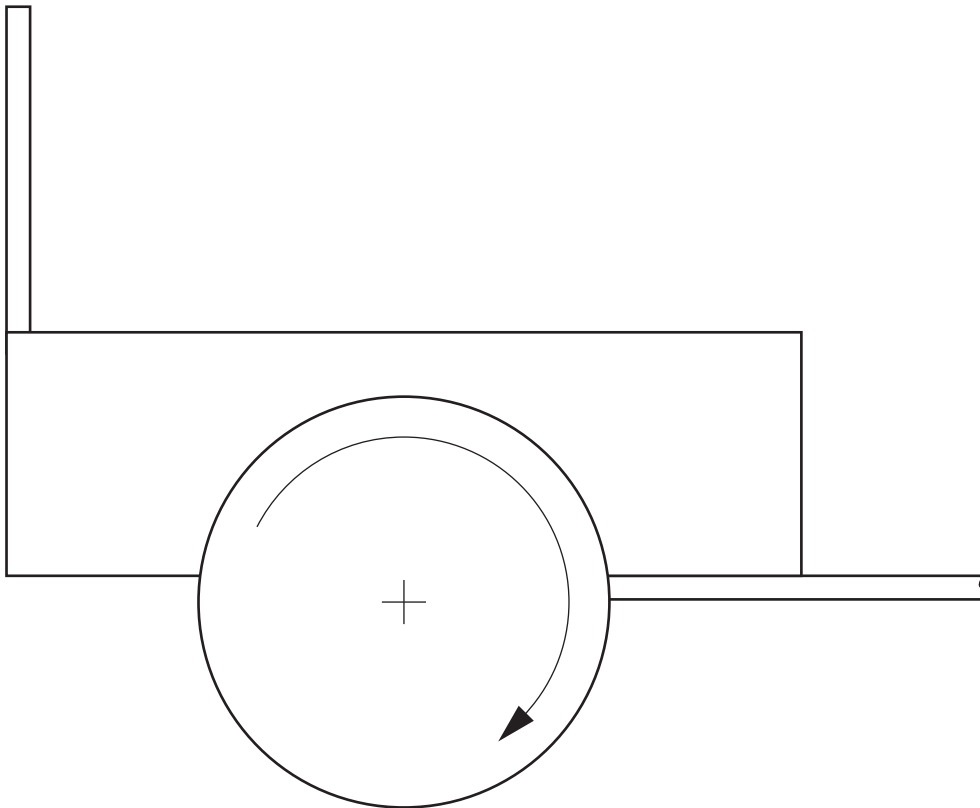

Fig. 5
- (c) Add sketches and notes to Fig. 5 to show a design for a hand-operated braking system for the Go-Kart.